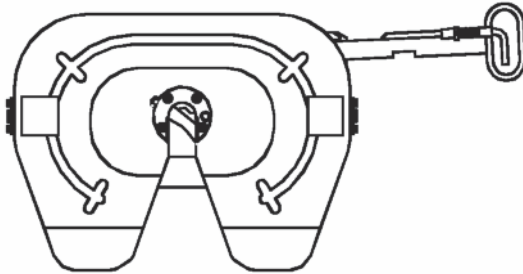

Figure 8 - Fifth wheel in Open position
5. Drive the tractor away from the trailer slowly. This will unlatch the handle from the block and reset the fifth wheel ready for the next coupling (see figure 8).